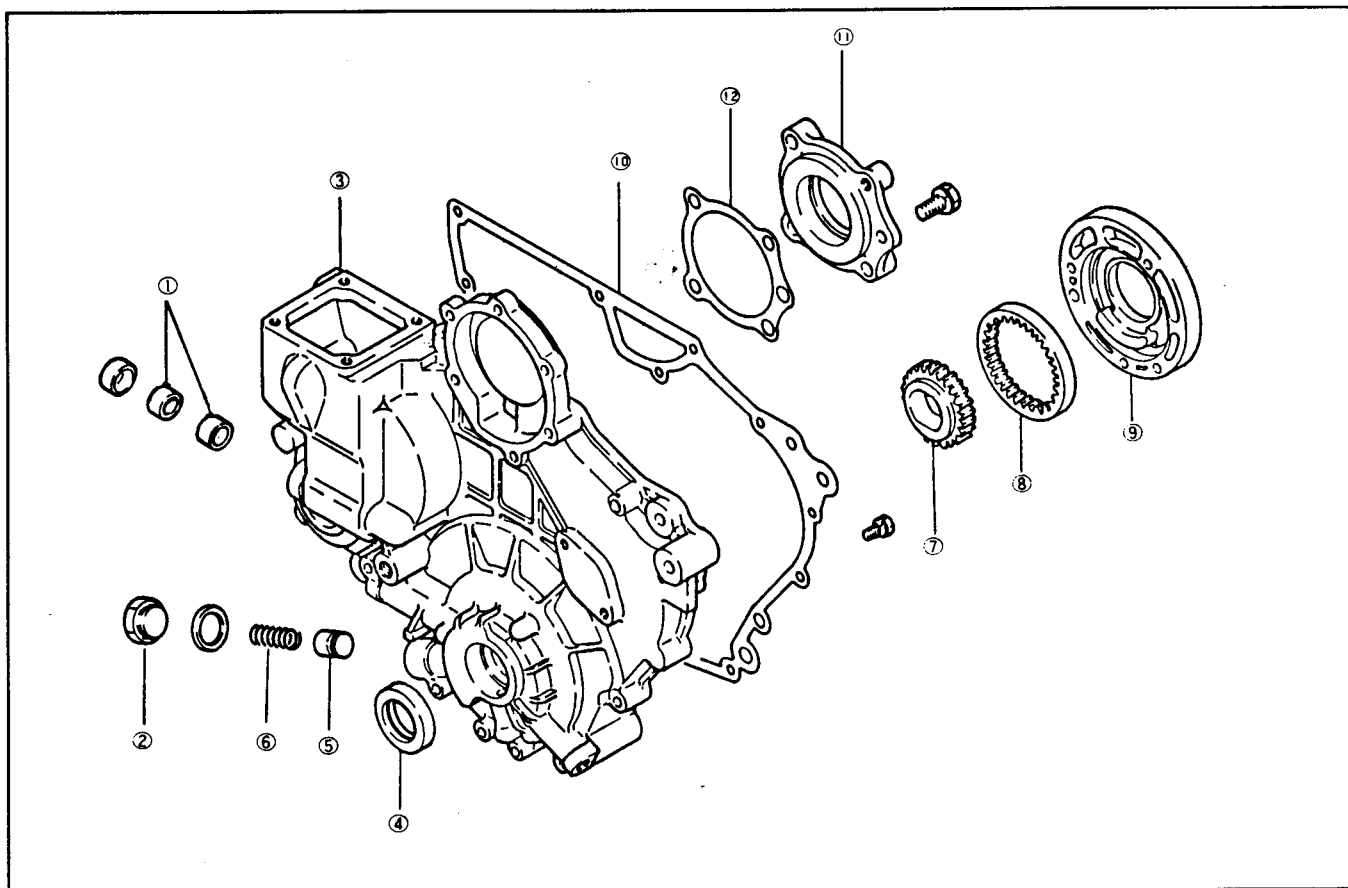

Figure 72
6. Remove the gear case assembly (Fig. 72).